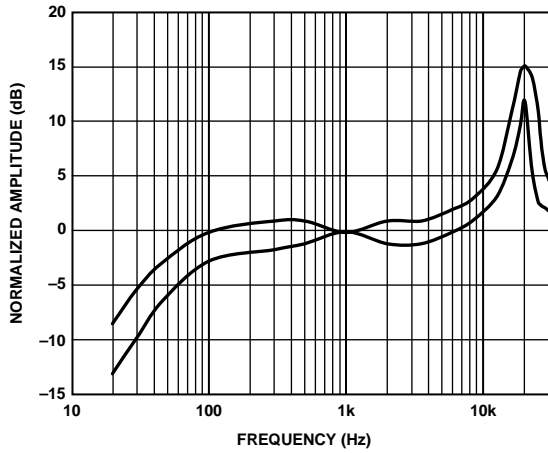

Figure 3. Frequency Response Mask
**Note 1:** See Figures 3 and 4.